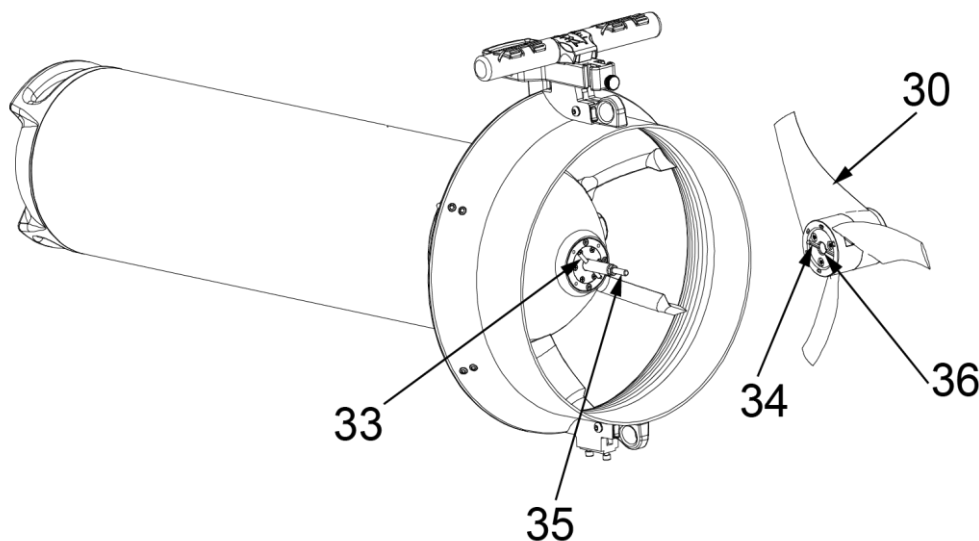

Fig 41 - Propeller insertion
Insert the propeller (hole 36 - **Fig 41 - a pag. 49**) in motor shaft of the Scooter (35), turn the propeller (clockwise) until the pin (33) matches the seat (34) propeller. When you hear a click, the propeller will stop turning. Continue by turning (CLOCKWISE) the switch (6 - Fig.1) with the finger only, WITHOUT FORCING.